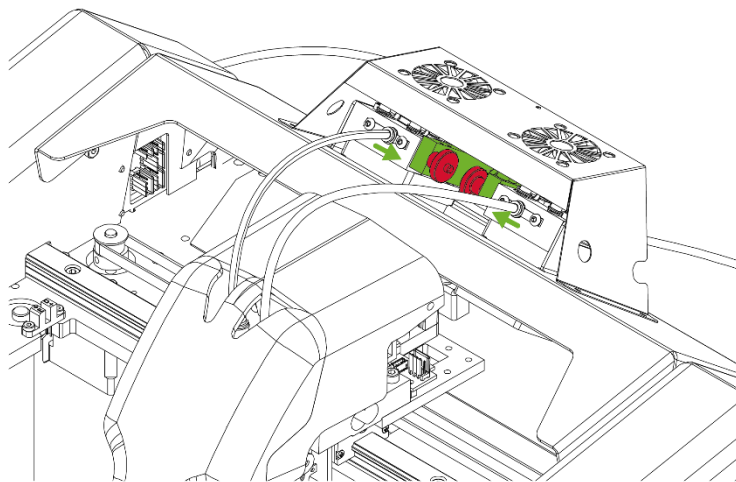

Fig. 39 Loosening the extruder clamp
- a) loosen the knurled nuts (fig. 39, red colour),
- b) pull the extruder clamp (fig. 39, green colour).
4. Tighten the knurled nuts (fig. 39, red colour).
- c) loosen the knurled nuts (fig. 39, red colour),
- d) pull the extruder clamp (fig. 39, green colour).
7. Tighten the knurled nuts (fig. 39, red colour).